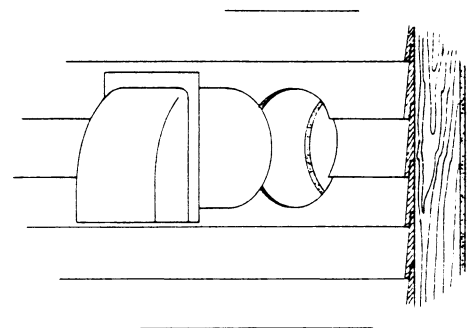

Figure 3
2. Install door and outside sleeve assembly from outside. Caulk and level assembly before nailing door frame tight. Remove tape, permitting damper door to open. House insulation can be worked around sleeve. (See Figure 3.)
5. Install door and outside sleeve assembly from outside. Caulk and level before nailing tight. Remove tape, permitting damper door to open. (See Figure 3.)